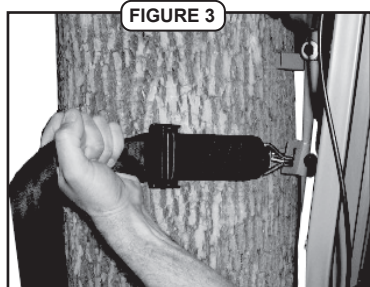
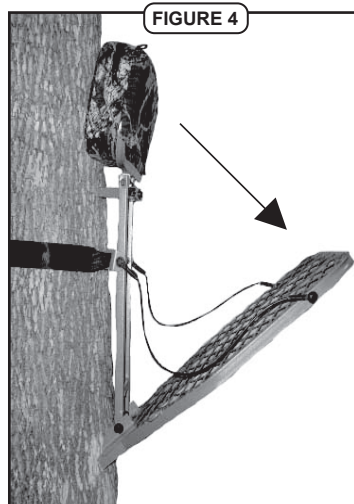

FIGURE 3
FIGURE 4
**STEP 3** Pull the excess strap to secure the stand to the tree, as shown in Fig. 3. The stand should be tight to the tree as shown in Fig. 4.
**STEP 4** Unfold the stand by bringing the platform downward (See Fig.4) Pull seat platform downward and adjust seat.